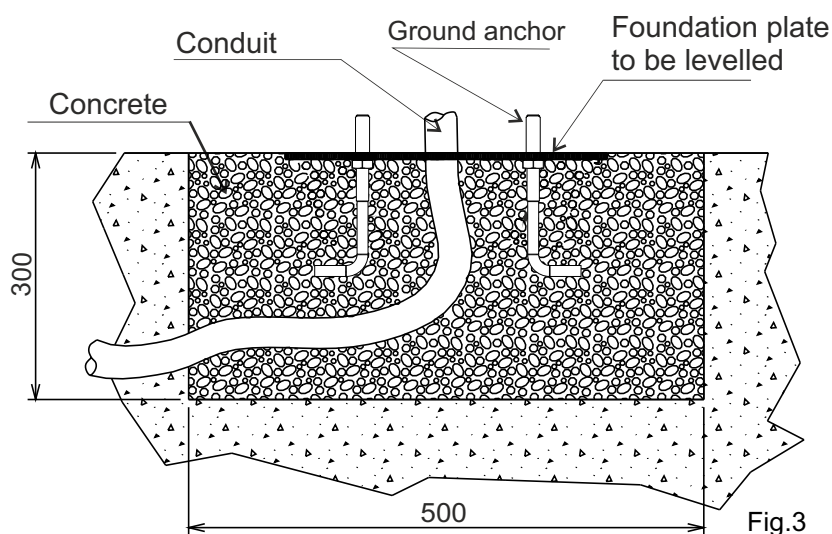

Fig.3
- Fill the hole with R425 concrete and place the foundation plate as shown in Fig. 3.